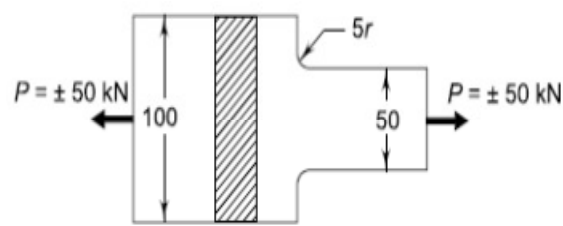

Fig. 3
- iii. A component machined from a plate made of steel 45C8 ($S_{ut} = 630 \text{ N/mm}^2$) is shown in Fig. 3. It is subjected to a completely reversed axial force of 50 kN. The expected reliability is 90% and the factor of safety is 2. The size factor is 0.85. Determine the plate thickness 't' for infinite life, if the notch sensitivity factor is 0.8. **5**